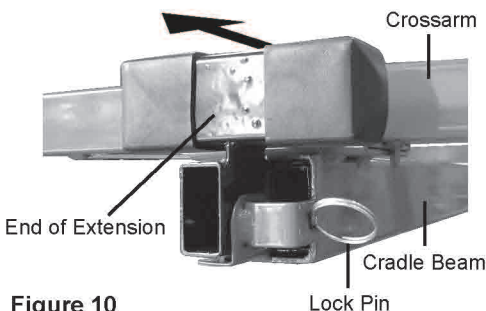

Figure 10
3. Extend the Crossarms as needed to support the panel size you are working with. (See Figure 10.)